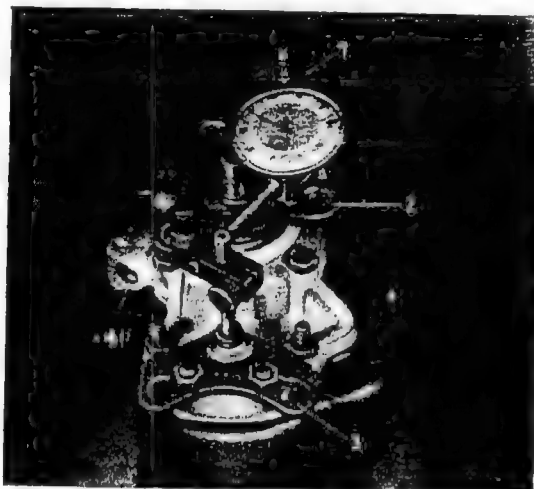

Fig. 41-1/7
15. Tighten the two hexagon screws (6) on the propeller shaft intermediate bearing, taking care to ensure that the brake cable bracket (7), if installed, is in the correct position (Fig. 41-1/5).